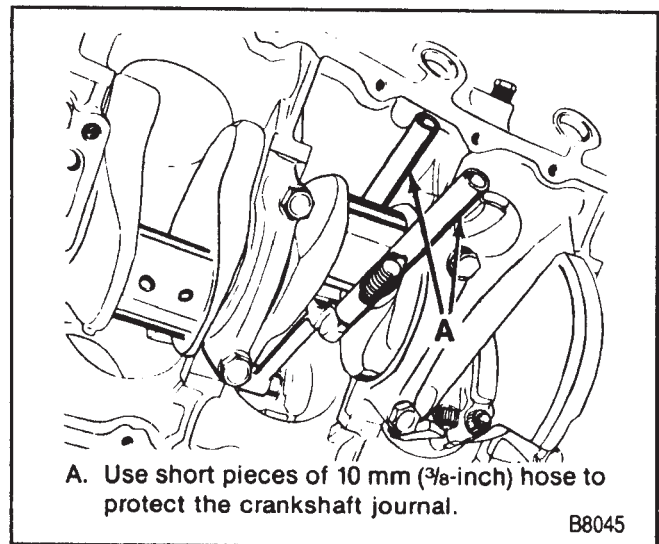

Figure 23—Replacing the Connecting Rod and Piston
### ↔ Remove or Disconnect (Figure 23)
- A. Attach short pieces of hose to the connecting rod bolts (figure 23). This will protect the crankshaft journal during removal.
- A. Attach short pieces of hose to the connecting rod bolts (figure 23). This will protect the crankshaft journal during installation.